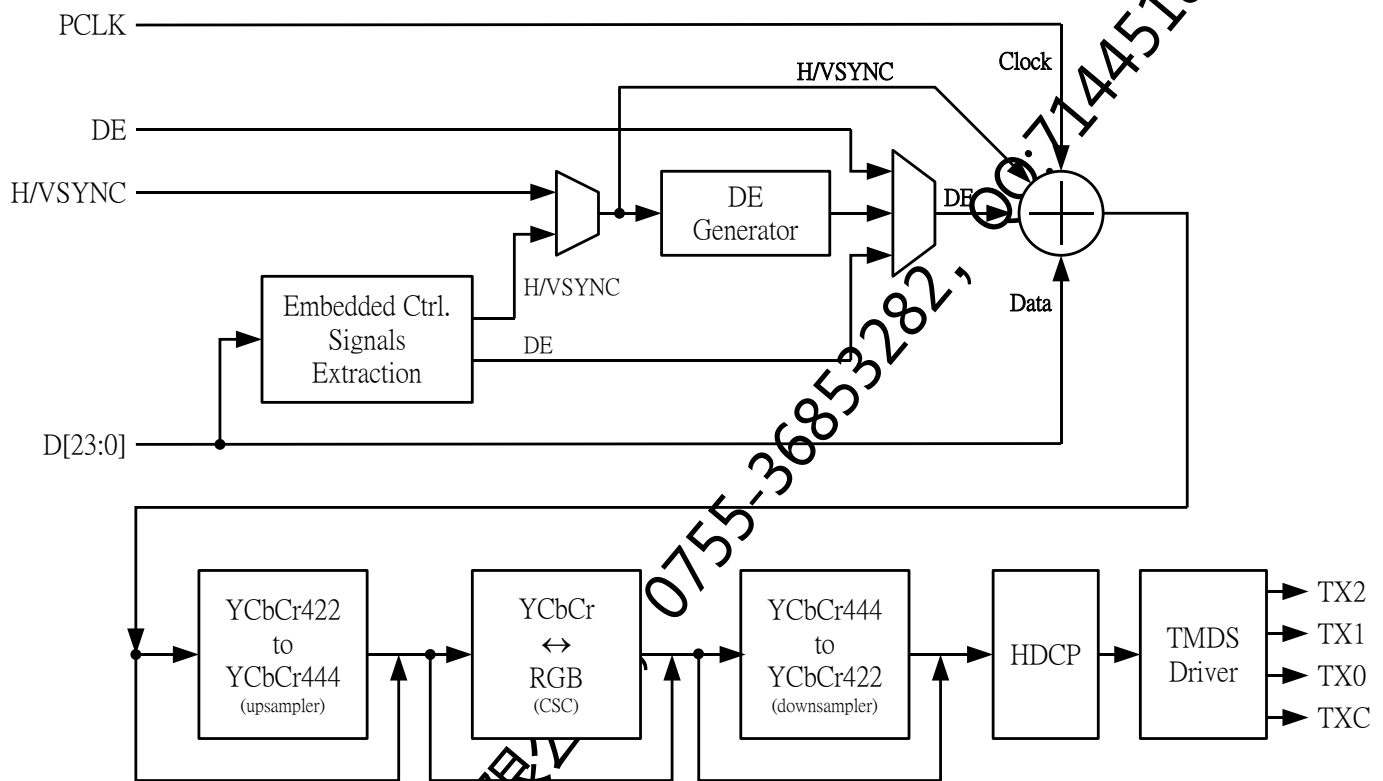

Figure 3 Video data processing flow of IT66121
Figure 3 depicts the video data processing flow. For the purpose of retaining maximum flexibility, most of the block enabling and path bypassing are controlled through register programming. Please refer to IT66121 Programming Guide for detailed and precise descriptions.
As can be seen from Figure 3, the first step of video data processing is to prepare the video data (Data), data enable signal (DE), video clock (Clock), horizontal sync and vertical sync signals (H/VSYNC). While the video data and video clock are always readily available from input pins, the preparation of the data enable and sync signals require special extraction process (Embedded Ctrl. Signals Extraction & DE Generator) depending on the format of input video data.
Although not explicitly depicted in Figure 3, input video clock (PCLK) can be configured to be multiplied by 0.5, 1, 2 or 4, so as to support special formats such as CCIR-656 and pixel-repeating. This is also enabled by software programming.